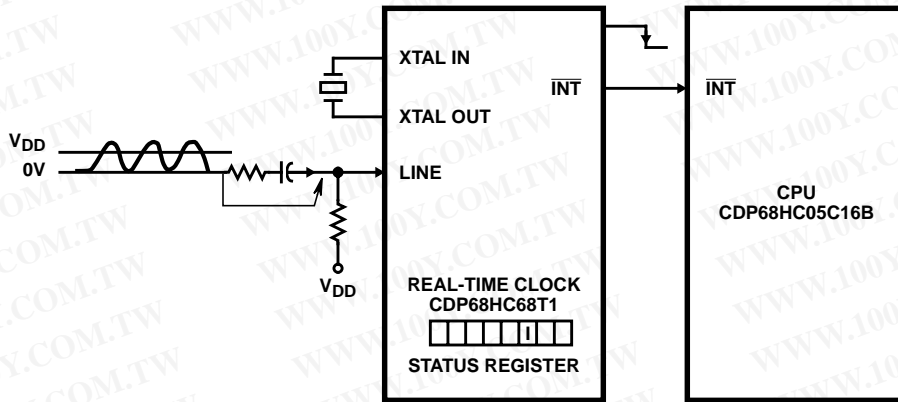

FIGURE 3. POWER-SENSING FUNCTIONAL DIAGRAM
**Power Sensing (See Figure 3)**